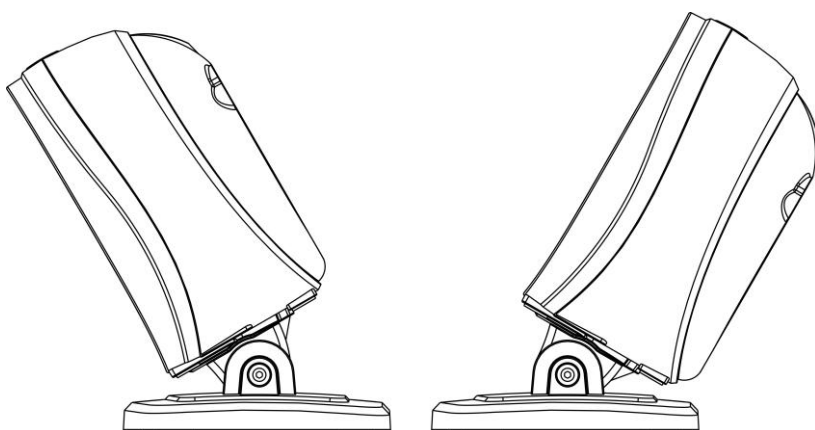

Figure 10-3
3. As shown in Figure 10-3, adjust the image platform forward/backward for a desired position.